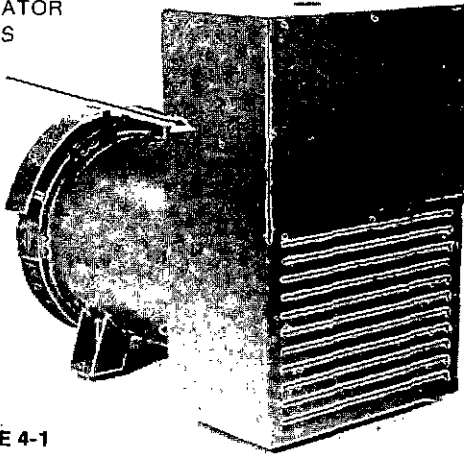

FIGURE 4-1
2. Disable the voltage regulator by removing the fuse (Figure 4-1 and 4-2).